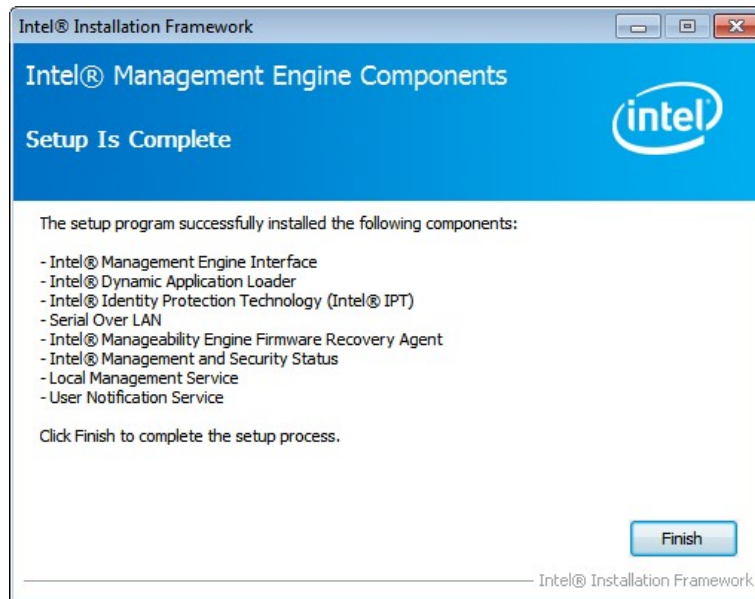

Figure 6-31: Intel® ME Driver Installation Finish Screen
Step 11: The **Finish** screen in Figure 6-31 appears.